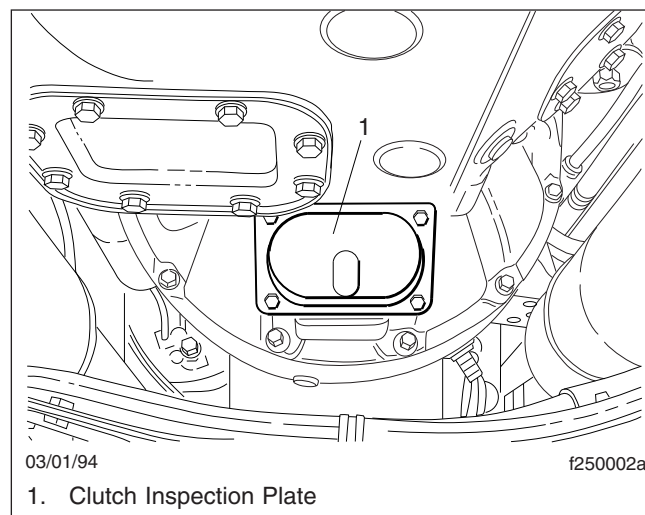

Fig. 1, Clutch Inspection Plate
2. Remove the clutch inspection plate. See Fig. 1.